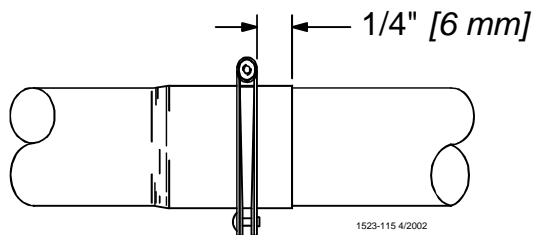

Figure 31. Assembling Feeders on the Tubes
Continue down the entire length of the feeder line so that every joint is secured with a standard Clamp or Clamp/Anti-Roost Bracket. **Figure 31** shows the proper clamp location on the tube joint. Do not tighten the clamp at this time.
8. Install Adjustment Leveler within 6" [152 mm] of feeder line. **Figure 31** shows the proper cable routing around the Adjustment Leveler.